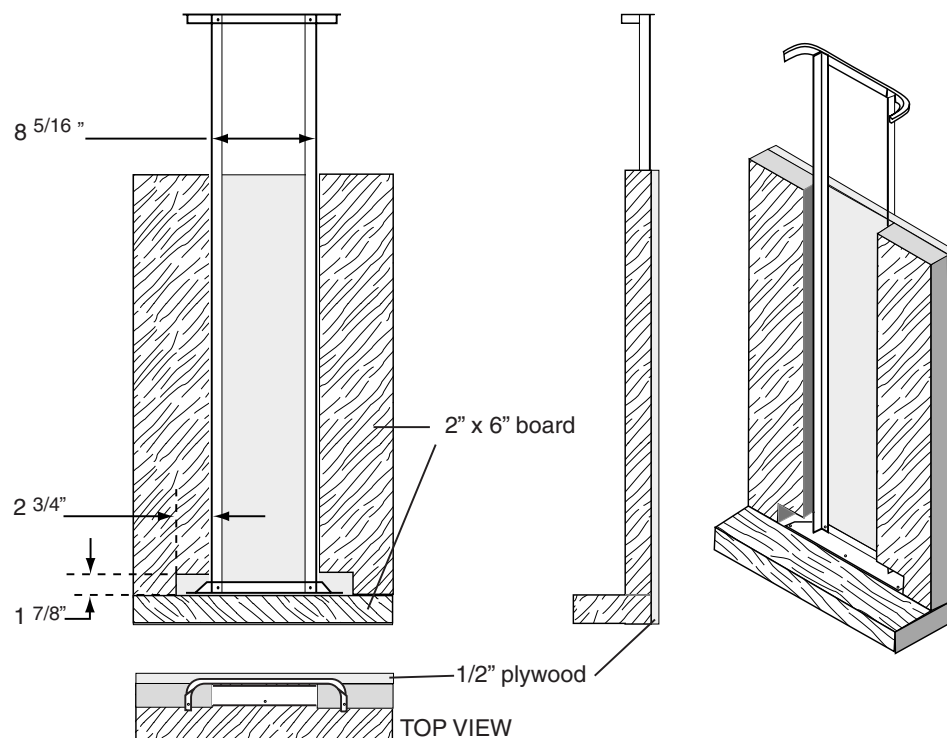

Figure 17: Egg Tray Frame Template
Step 13: Check each egg tray frame for squareness before installing them into the rack. This can be done by constructing and using an egg tray frame template as illustrated in Figure 17. The materials required can be taken from the crate that the egg trays come in. The template should allow for 1/32" on both sides of the rail for easy placement and removal of the egg tray frames. Failure to square egg trays when assembled, may lead to extreme interference and further correction as in Step 20.